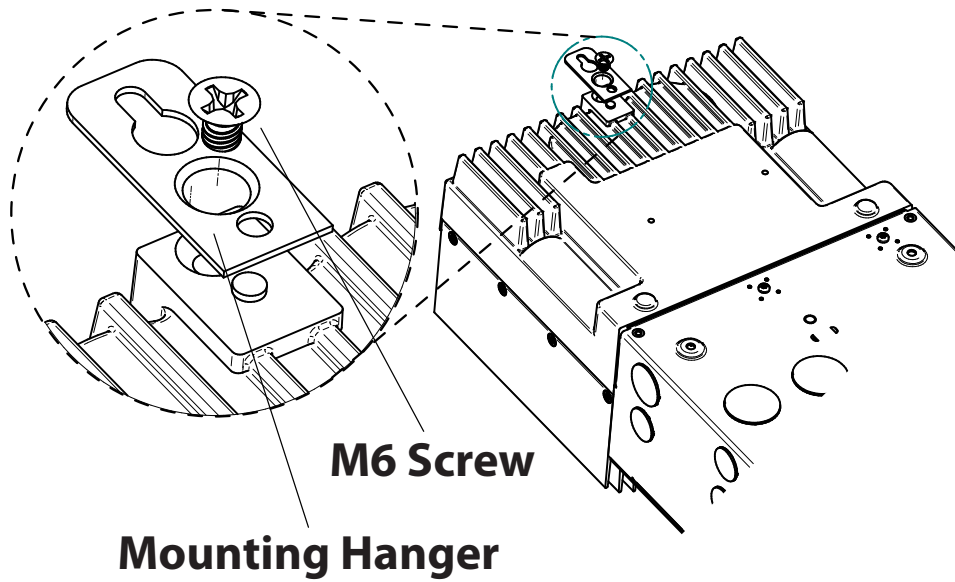

Figure 3-6. Attaching the mounting hanger
The TS-MPPT-600V-TR wiring box provides continuous and separate paths for high voltage (solar) and low voltage (battery & COM) wiring routing. These allow wiring to pass between TS-MPPT-600V-TR controllers that are mounted side-by-side without the need for external conduit tubing. Table 3-1 identifies the pass-through knock-outs which may be used for this purpose. Figure 3-6 shows the routing of the high voltage and low voltage wiring paths.
1. Attach the mounting hanger to the bottom of the TS-MPPT-600V-TR with the M6 screw provided as shown in figure 3-6.